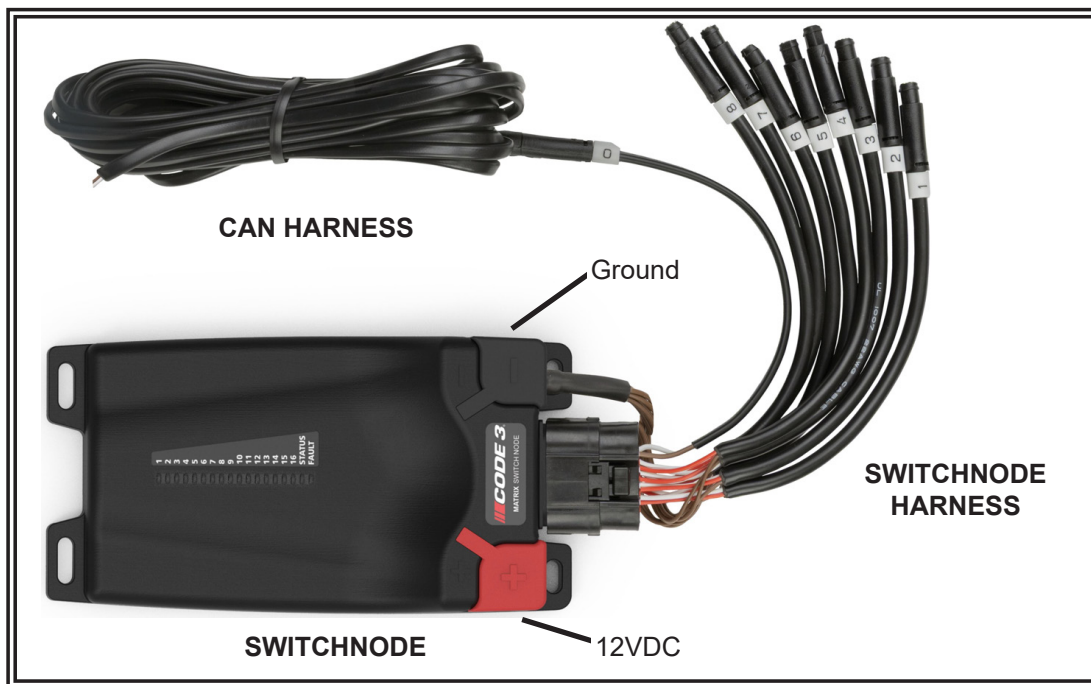

Figure 1
- a. Insert the female connector into male connector "0" on the Switchnode harness (PN 670-0603-00). See Figure 1.
3. Insert the Switchnode Harness (PN 670-0603-00) into the Switchnode as shown in Figure 1.